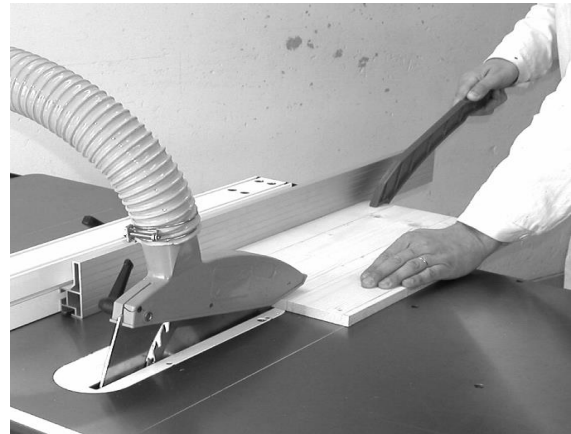

Fig 17.4
**Ripping of narrow stock (Fig 17.4).**